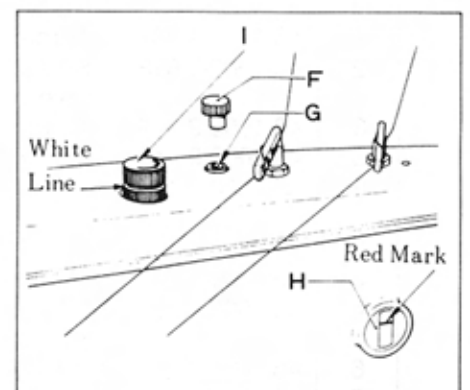

Figure 4
4. Lubricating the Sewing Head (Figure 4)
Remove the oil plug (F) and pour oil into the oil inlet (G) until the oil level in gauge (H) reaches the red mark. To start the flow of oil, turn the oil feed button (I) to the white line as shown in Figure 4.